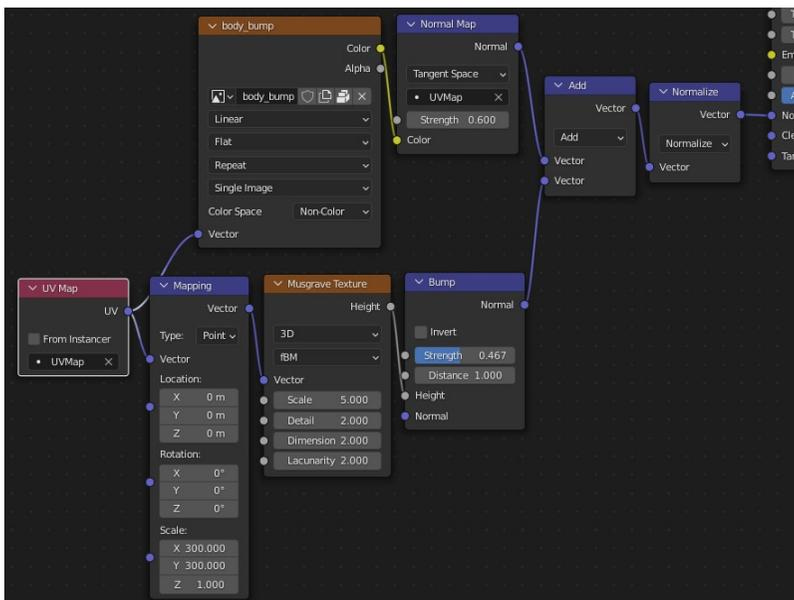

Figure 9-2 Nodes Combining Normal Map and Bump
2. To combine the two normals you use vector addition. Reduce the Strength of the normal map node to **0.6** as well then use **Add ▶ Convert ▶ Vector Math** to add a node to combine the two normals. However this result then needs to be normalized by another Vector Math node with the operation set to **Normalize**. The node arrangement is shown in Figure 9-2.
The render on the left of Figure 9-3 shows a material with the normal disconnected, but with a multiresolution modifier still in place, set to level 1. The middle render has the normal image texture baked from sculpted multiresolution level 3. The right hand render has both the image and the noise texture pores using the shader shown in Figure 9-2.